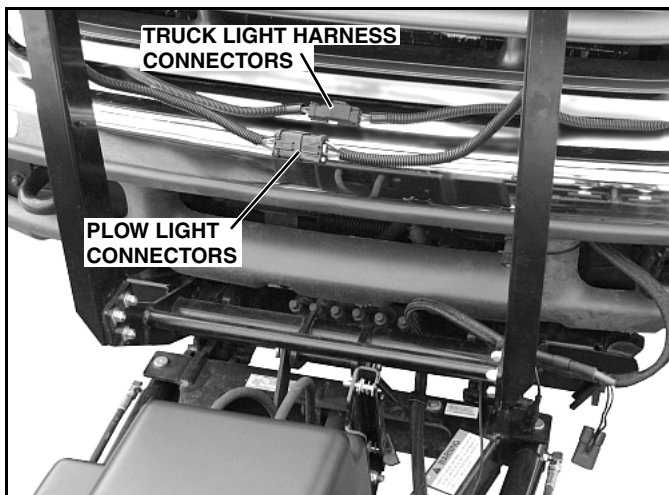

Figure 1-12
7. Unplug light harness connectors on truck, and disconnect plow light connectors, which had been plugged together for corrosion protection during storage (See Figure 1-12).